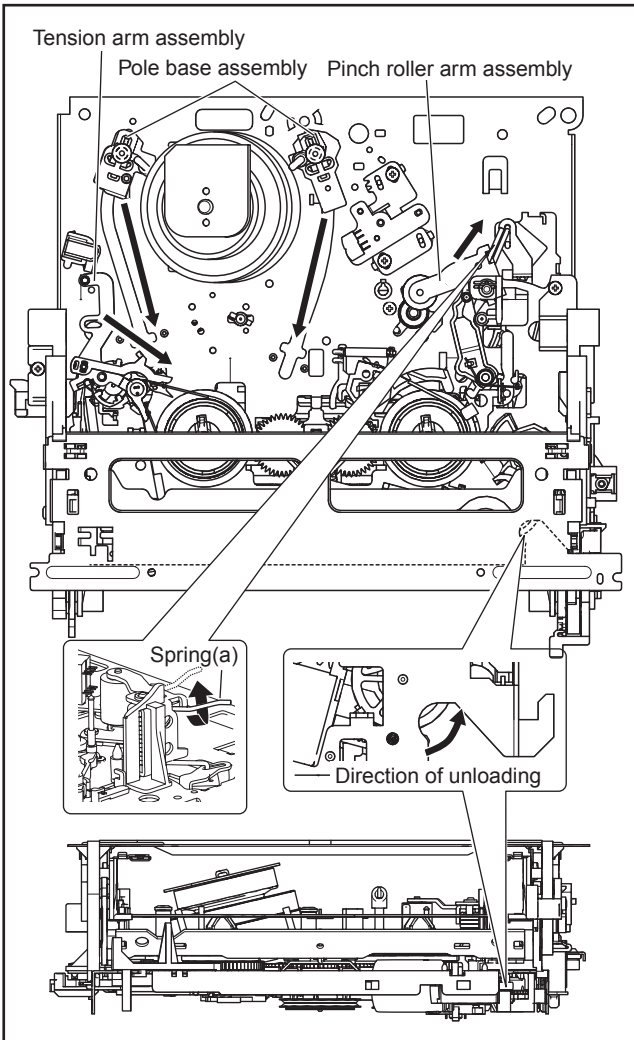

Fig. 5-1b
- (3) Unload the pole base assembly by manually turning the gear of the loading motor until the pole base assembly is hidden behind the cassette lid. In doing so, hold the tape by the hand to keep the slack away from any grease. (See Fig. 5-1b)